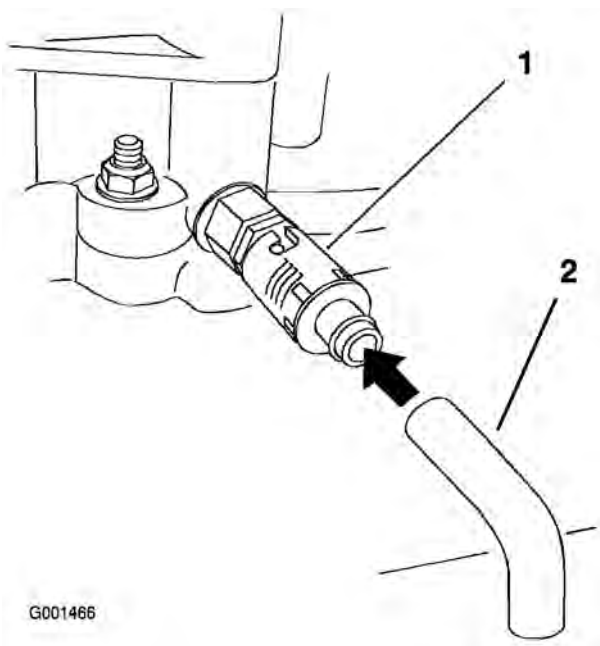

Figure 29
6. Place a pan below the drain hose. Rotate oil drain valve to allow oil to drain (Figure 29).
- Remove the drain hose (Figure 29).